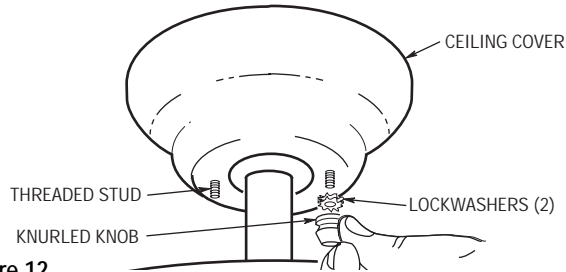

Figure 12
- 4. Lift the ceiling cover up to the threaded studs and turn until studs protrude through the holes in the ceiling cover (Figure 12).
- 5. Secure the ceiling cover in place by sliding lockwashers over the threaded studs and installing the two knurled knobs (supplied). (Figure 12.) Tighten the knurled knobs securely until the ceiling cover fits snugly against the ceiling and the hole in the ceiling cover is clear of the downrod. Your fan is now wired to be turned on and off from the fan switch.